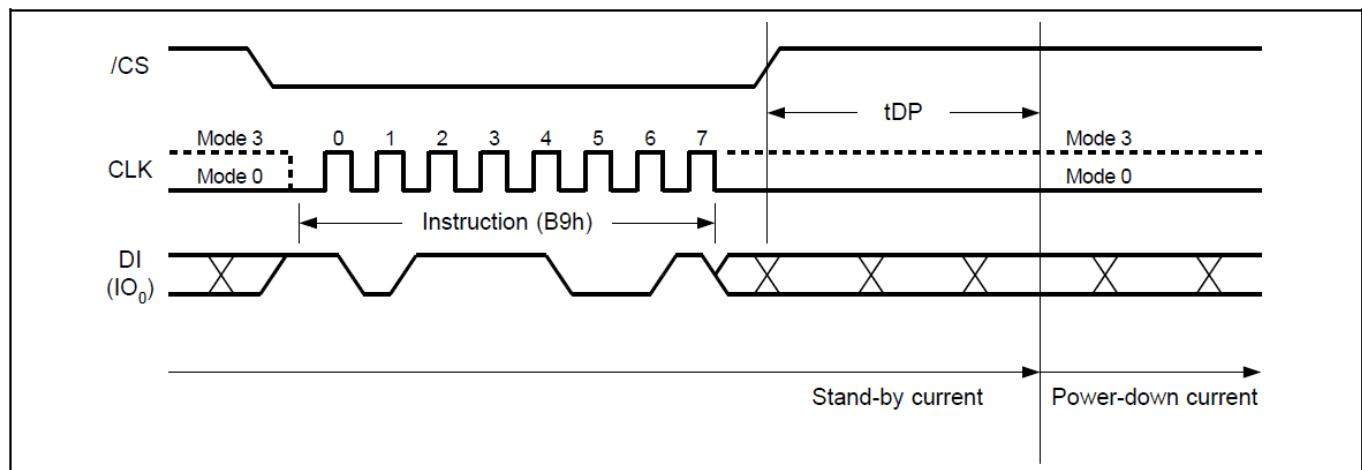

Figure19. Deep Power-Down Sequence Diagram
The Deep Power-Down Mode automatically stops at Power-Down, and the device always in the Standby Mode after Power- Up. The Deep Power-Down command sequence: CS# goes low → sending Deep Power-Down command → CS# goes high. The command sequence is shown in Figure19. CS# must be driven high after the eighth bit of the command code has been latched in; otherwise the Deep Power-Down (DP) command is not executed. As soon as CS# is driven high, it requires a delay of t_{DP} before the supply current is reduced to $IDPD$ and the Deep Power-Down Mode is entered. Any Deep Power- Down (DP) command, while an Erase, Program or Write cycle is in progress, is rejected without having any effects on the cycle that is in progress.